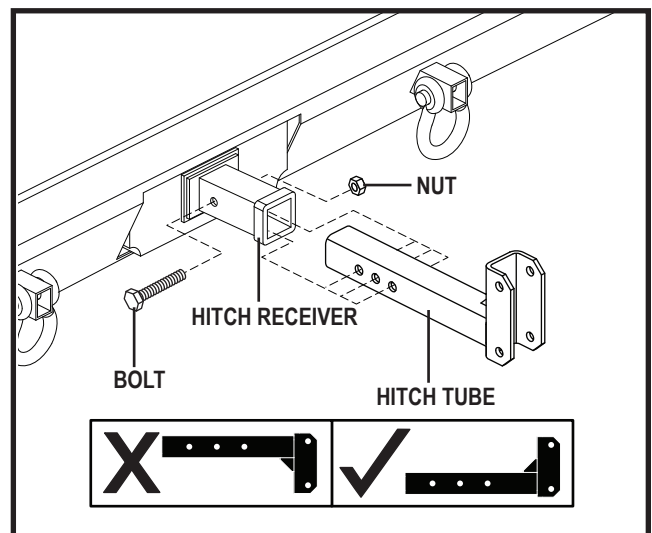

Figure 10. Hitch Tube Installation
2. Slide the hitch tube into the vehicle hitch receiver, aligning the mounting hole closest to the lift with the mounting hole in the hitch receiver. Ensure that the hitch tube is oriented properly. See figure 10.
3. Secure the hitch tube with the supplied bolt and nut, inserting the bolt from the threaded side of the hitch tube. See figure 10.